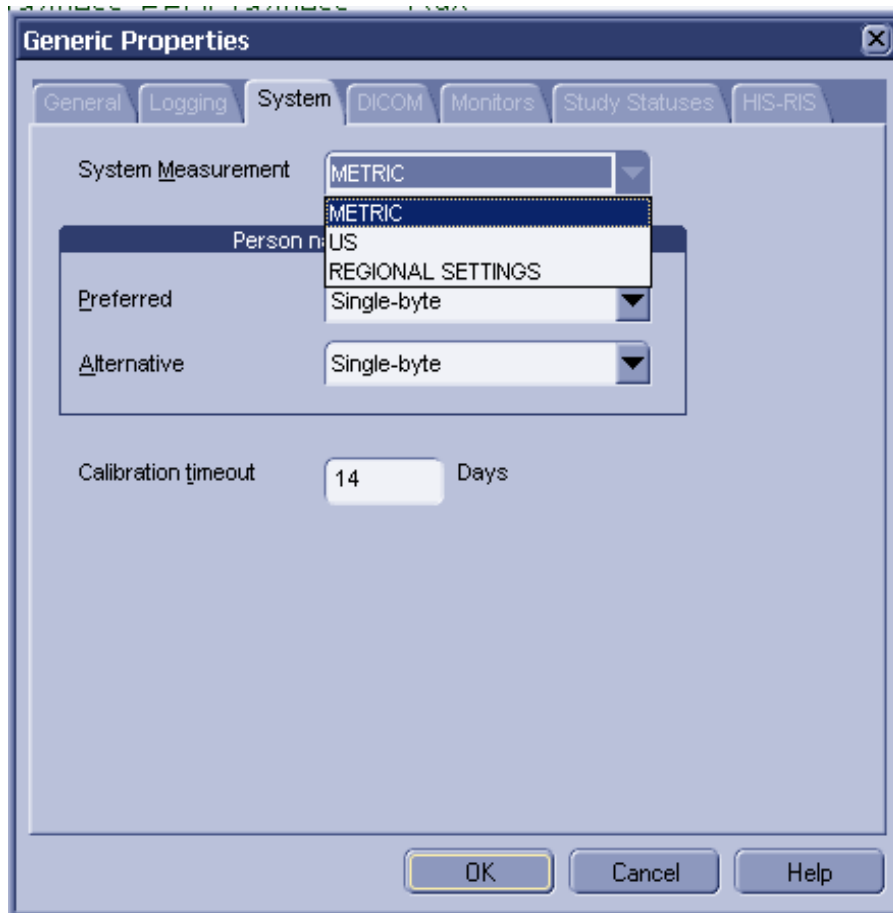

Figure 3-74 Generic Properties - System Settings (2)
- **System Measurement:** Select the units of measurements you want LOGIQworks to use from the drop-down list. If you select REGIONAL SETTINGS (see Figure 3-74), LOGIQworks will use the settings as specified in Regional Settings in the Windows Control Panel (see Section 3-5-1-2 on page 3-70). (Default: METRIC)